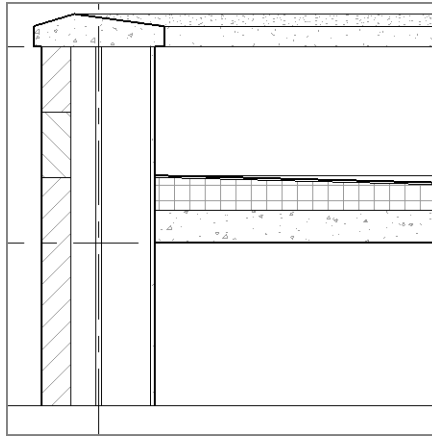

FIGURE 12.3: Your section's outline should begin looking a lot better.
11. Click OK, and you'll see the change to your outline (see Figure 12.3).